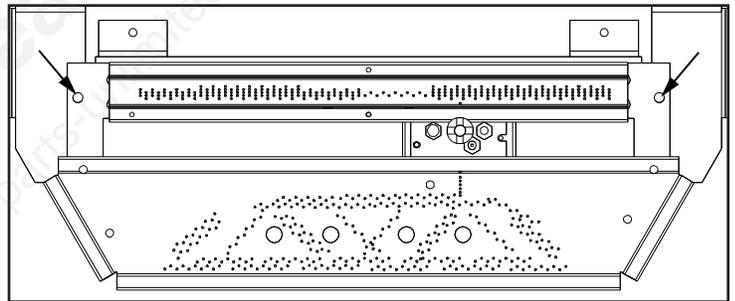

Figure 7: Screws holding Burner.
2. Remove the two (2) T-20 screws that hold the burner in place; one (1) at each of the rear burner (see Figure 7).
4. Remove the four (4)  $\frac{5}{16}$ " bolts that hold the blower mounting plate to the back firewall. Use a light lubricating oil on screws before removal.
5. Carefully pull the blower assembly into the firebox (see Figure 7) disconnect the blower leads from the harness and remove blower.